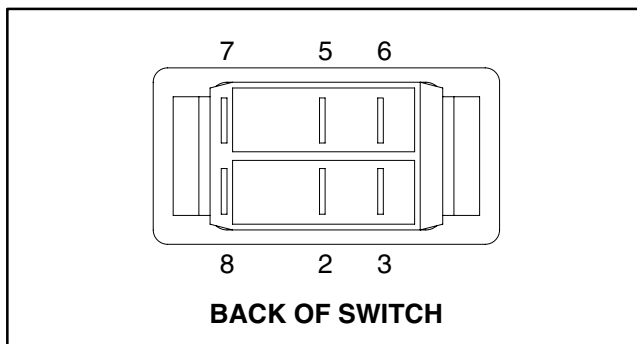

Figure 12
2. The switch terminals are marked as shown in Figure 12. In the ON position, continuity should exist between terminals 2 and 3. In the momentary SET position, continuity should exist between terminals 5 and 6. In the OFF position, there should be no continuity between any switch terminals.